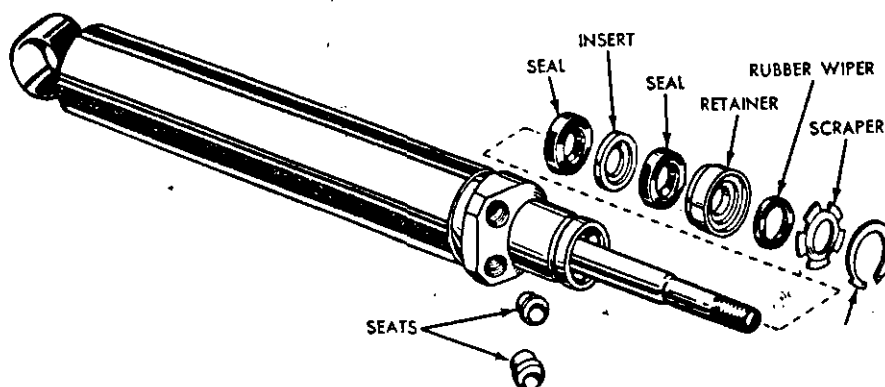

FIG. 45 —Power Cylinder
1. Coat the new seals with lubricant M2C33F and place the parts (Fig. 45) on the piston rod which has been coated with the same lubricant.